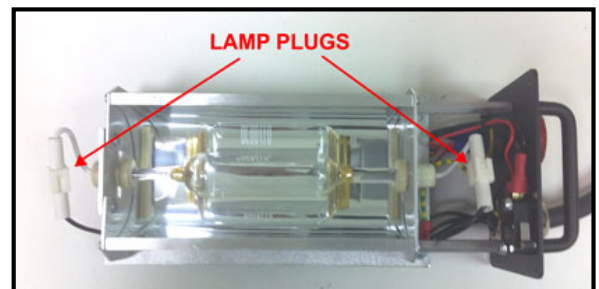

Figure 5
3. Unplug the blue plugs at each end of the lamp (See **Figure 5**)